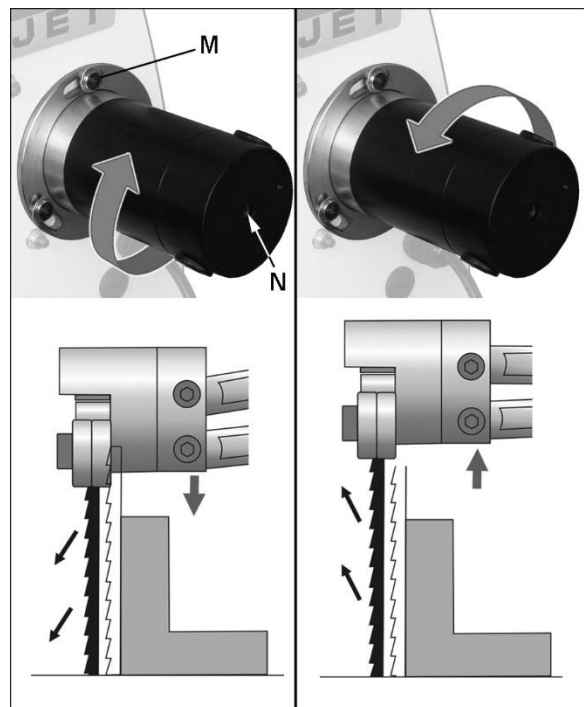

Figure 23: blade oscillation
- Loosen screws on motor flange (M, Figure 23) with 4mm hex wrench. *Only loosen screws enough to allow motor rotation.*
6. Slowly rotate entire motor by hand to adjust oscillation. Clockwise rotation will make blade movement more aggressive on downstroke. Counter-clockwise will make blade more aggressive on upstroke. See Figure 23.